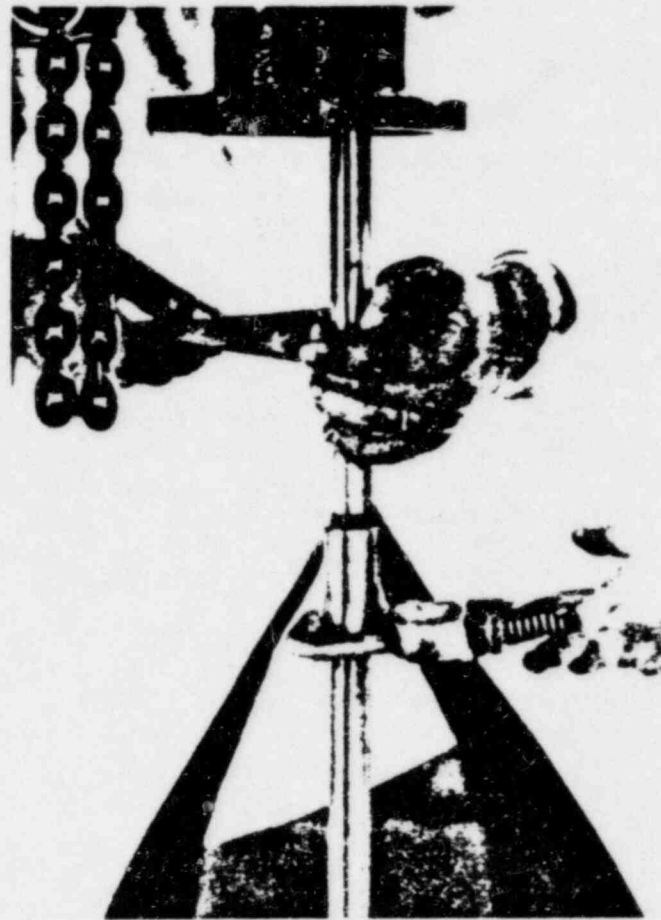

Figure 7-1. INSTALLING THE COLUMN
D. Install two eyebolts diametrically opposite in the upper flange of column (644). Attach a sling to the eyebolts and to hoist hook. Hoist column section over bowl assembly. (See figure 7-1). Lower column over lineshaft until column flange engages the discharge bowl flange register. Insert as many capscrews through both flanges as possible. Tighten capscrews gradually in diametrically opposite pairs.
G. Place bearing retainer (652) with bearing (653) over lineshaft (646) and locate it in the bottom column (644) flange register (see figure 7-1).